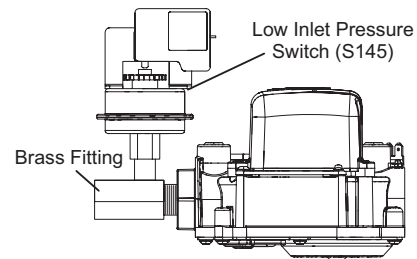

FIGURE 2
- 8 - Thread provided fitting to gas valve inlet until hand tight. Using properly sized wrench, tighten fitting 2 to 3 full turns being careful to position the side port to allow clearance for the pressure switch and harness. See figure 2 or 3.
- NOTE** - Some installations may require the pressure switch and fitting assembly to be positioned differently than shown in figure 2 and 3.